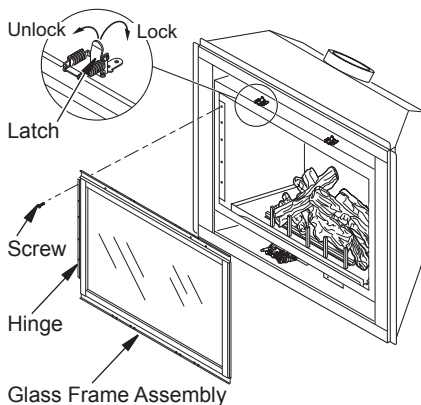

Figure 41 - Removing/Replacing Glass Door
2. Lift up on latches to unlock. There are two on top of firebox and two below firebox that hold glass door in place (see Figure 41).
3. While holding glass door to prevent it from falling and causing injury, remove 5 screws from hinge located on left side of door frame assembly (see Figure 41).